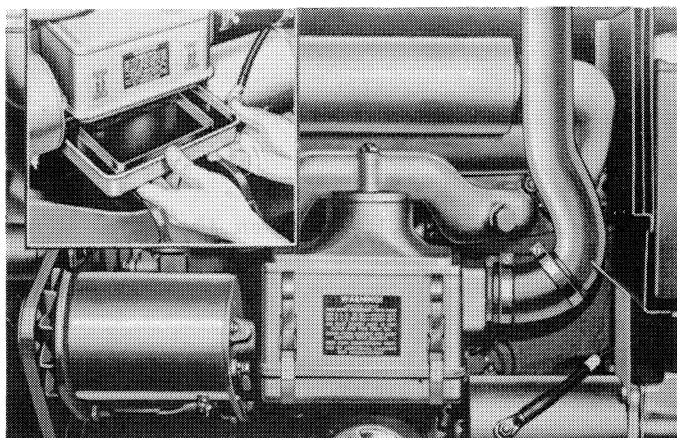

Figure 1—Air Cleaner Maintenance
2. Carefully release the oil bath tray straps and remove the tray and gasket as shown in Figure 1.